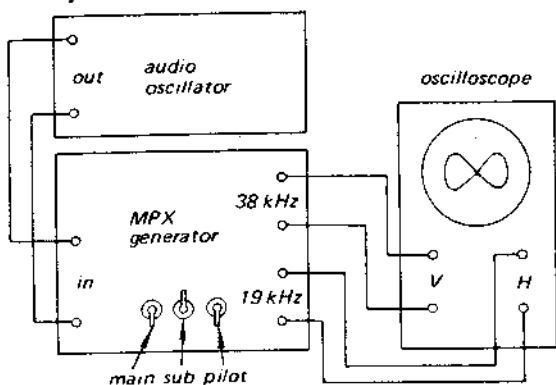

Fig. 3-11. MPX generator preadjustment
1. With the equipment connected as shown in Fig. 3-11, set the MPX and audio signal-generator controls as follows: